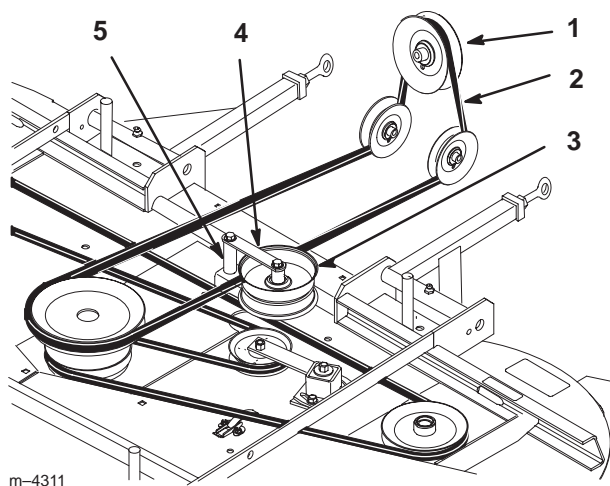

Figure 52
- Remove PTO drive belt from clutch, around rear idler pulleys and off of mower top center pulley (Fig. 52).
- Remove bolt, nut, washer and spacer from idler pulley bracket assembly. Remove belt from bracket assembly (Fig. 52).
- Install belt into idler pulley bracket assembly. Install bolt, nut, washer and spacer into assembly (Fig. 52).